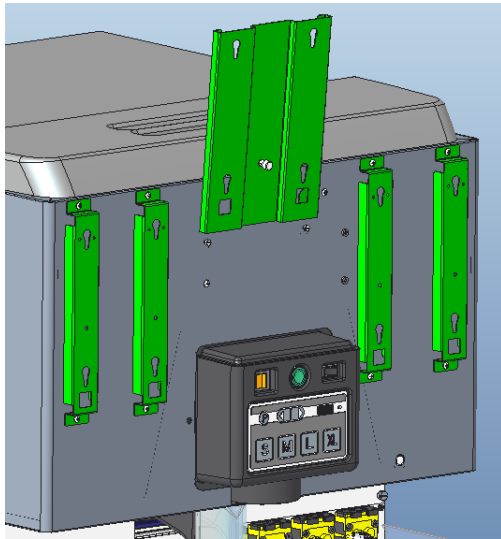
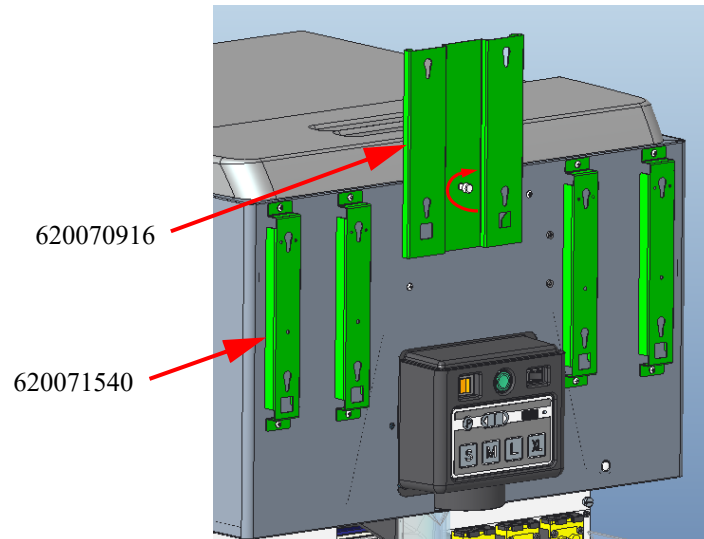

Figure 12.
Figure 13.
- Figure 12 & Figure 13. shows the location of adapter brackets, suitable for Option-1 & Option-4. Assemble Cup/Lid dispenser adapter bracket part no.620071540 at the two left and two right positions. If Lid holders are to be installed in the center area, use Lid holder bracket part no.620070916. This Lid holder bracket should be held and slide into the two shoulder screws such that it stays there. Rotate the thumb screw clockwise to tighten it.